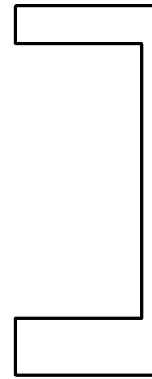

Fig. 2
- Step 3. Click **Line**  (L) on the Sketch toolbar.
- Step 4. Starting at the Origin , draw lines shown in **Fig. 2**.